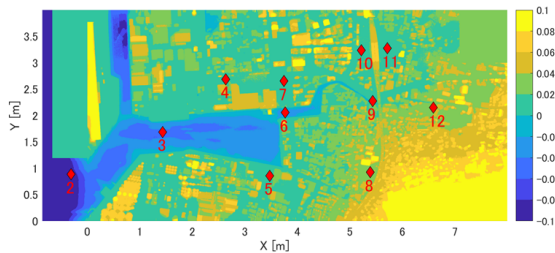
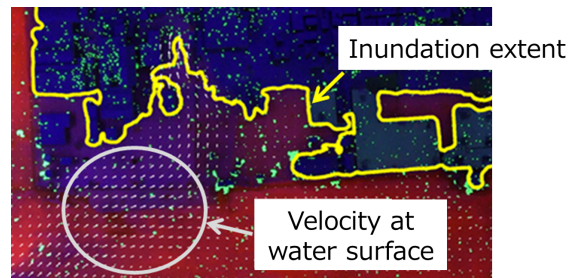

Fig1 Topography height in the physical model and the location of WGs.
Fig2 Example of estimated inundation extent and velocity at the water surface
- the additional data available on the time series of wave height measured in the physical model(WG3~WG12, please refer Fig1), inundation extents estimated by the image analysis(Fig2), and the flow velocity at the water surface estimated by the PIV analysis(Fig2).
- 1. The 2D bathy/topo surface you used for your model and as shown in Figure 2 (top subplot). Any format that I can load in Matlab is fine.**